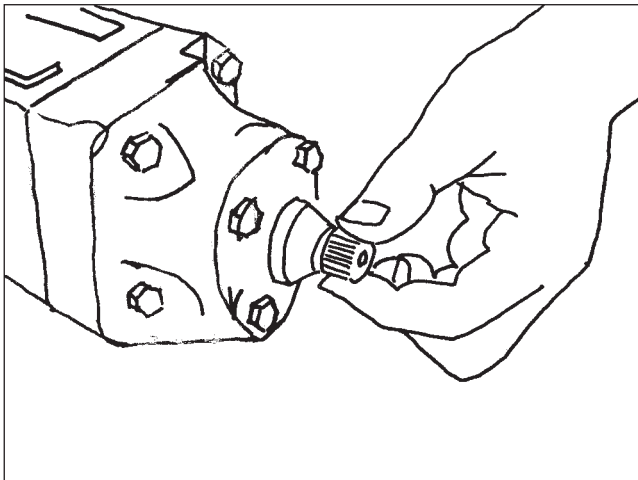

Figure 96
11. Remove the face seal from the input shaft (if equipped) (Figure 96).